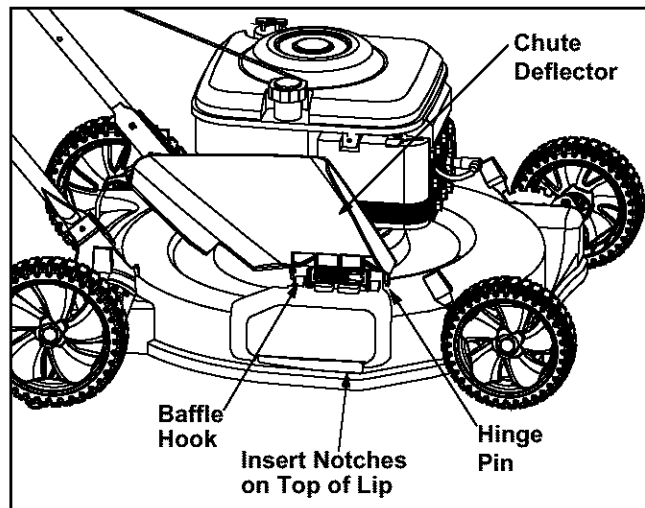

Figure 5
- Lift chute deflector and insert the mulching baffle so that the notches at the bottom of the baffle sit firmly on the lip of the discharge opening. See Figure 5.